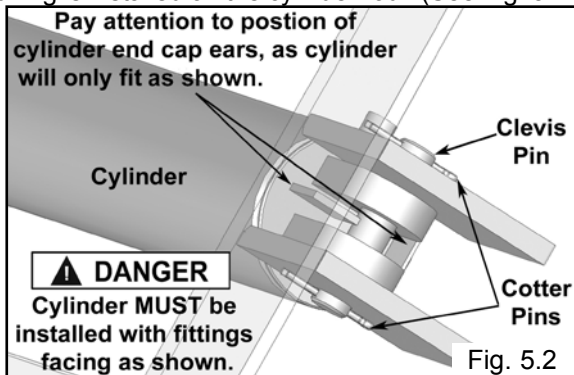

Fig. 5.2
2. Install the Cylinder and Cable Block as shown. Ensure the snap ring is installed on the cylinder rod. (See Fig. 5.2 - 5.3)